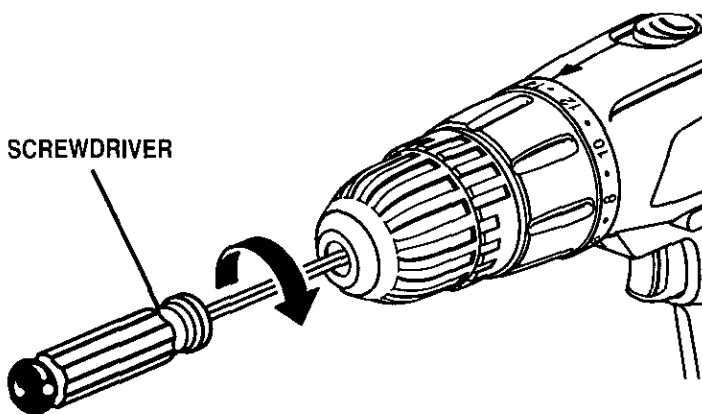

Fig. 14
- Open chuck jaws and remove hex key. Remove the chuck screw by turning it in a clockwise direction. See *Figure 14*.